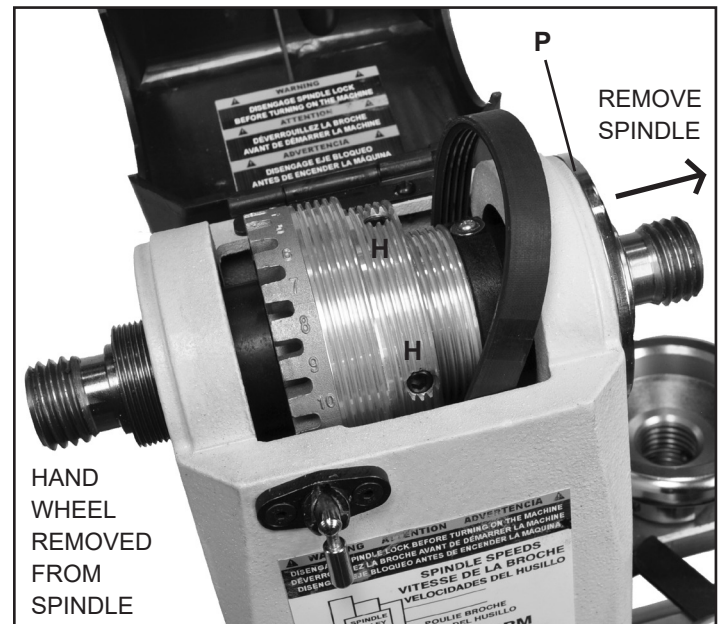

FIG. 14
7. At the opposite inboard side of the headstock, remove the Bearing End Plate (#19B) by unscrewing the 3 hex head Screws (#20B) with a 3mm hex wrench. FIG. 14, P.
8. Remove and loosen the Set Screws (FIG. 14, H) that attach the Spindle Pulley (#7B) to the spindle. The pulley should now be loose on the spindle. **NOTE:** There are two (2) set screws, one on top of the other, in both of the two (2) threaded holes. This stacking keeps the set screws from loosening during use.
Once there is enough space, the old drive belt can be removed around the spindle end, and replaced with the new belt. Figure 14.